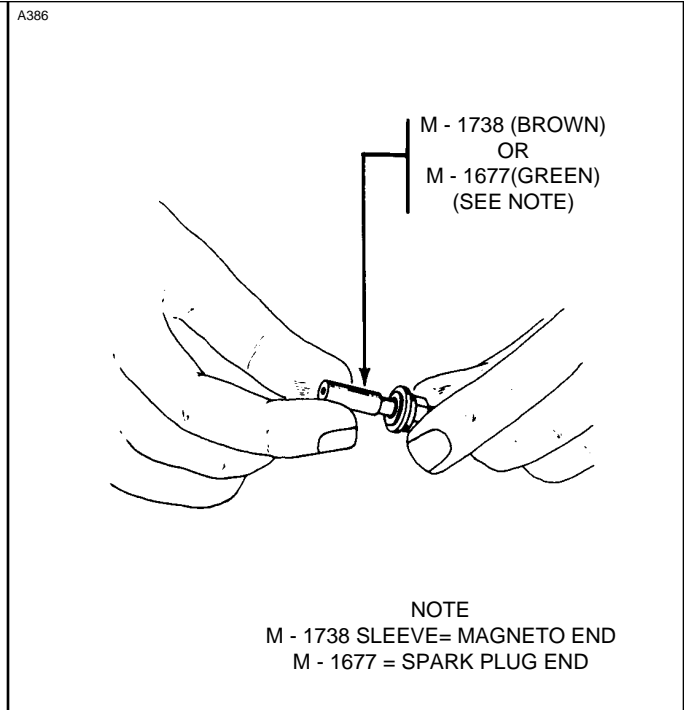

Figure 8-25 Installation of Insulator Sleeve
- n. On the magneto end of the wire, place M-1738 Insulator Sleeve (brown, 0.75 inch long) over the silicone insulation. On the spark plug end of the wire, use green M-1677 Insulator Sleeve. Refer to Figure 8-25.